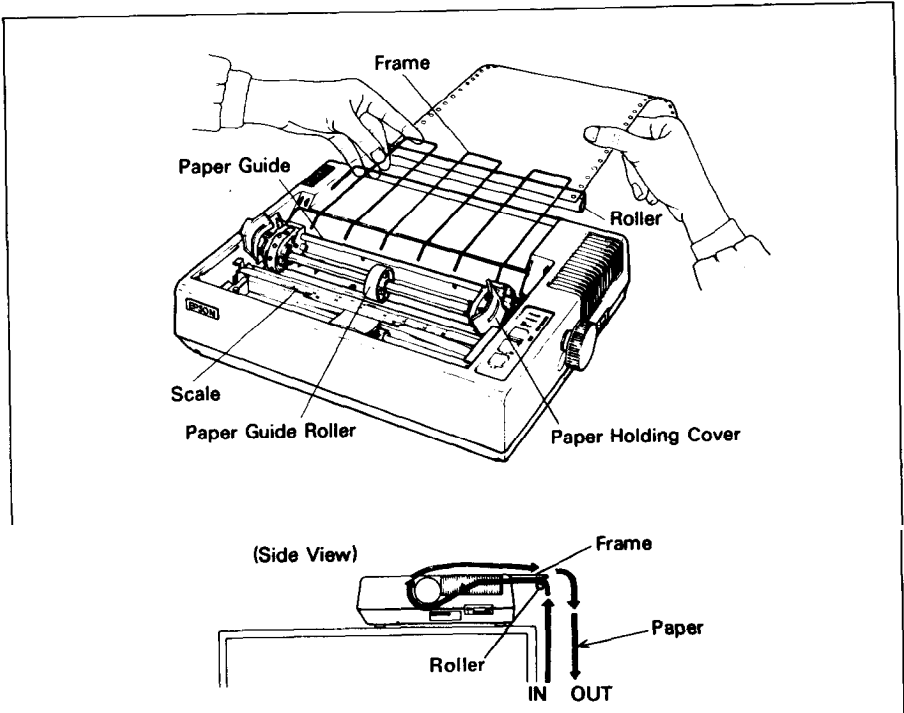

Fig. 12 Insertion of Fanfold Paper
- STEP 4. Raise the two paper holding covers, and be sure to insert the fanfold paper between the frame and plastic roller of the separator. (See Fig. 12.)